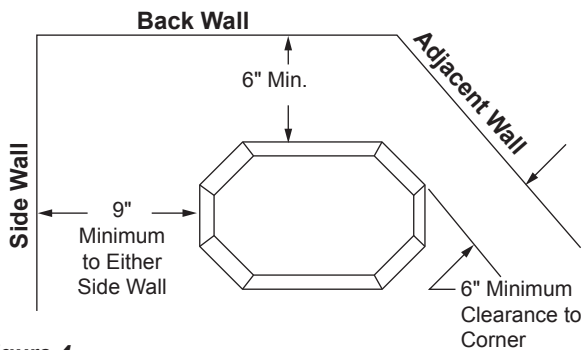

Figure 4 - Clearances to Side, Back and Adjacent Walls
- Minimum clearances to combustibles, side-wall, ceiling, woodwork, and windows **must be maintained**. *Page 8, Figures 4 and 5.*
The dimensions shown in *Figures 4 and 5* are minimum clearances to maintain in installing this heater. Left and right clearances are determined when facing the front of the heater.
- Stove must be at least 6" from the back wall. *Figure 4*
- Stove must be at least 9" from either side wall. *See Figure 4*
- Stove must be at least 6" from the corner. *Figure 4*